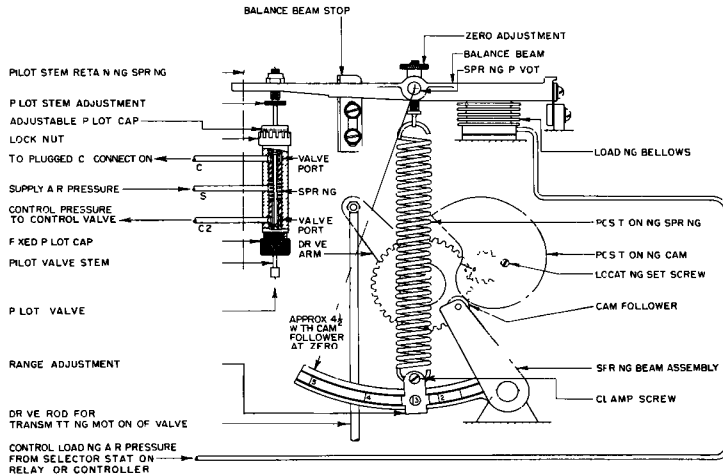

FIGURE 2 - Schematic of Positioner
b 1 1/2 or 2 INCH RATED TRAVEL Remove B 1/2 cam. Do not remove locating set screw (Figure 2). Replace B 1/2 cam with B cam
a 3/4 or 1 INCH RATED TRAVEL Remove B 1/2 cam. Remove location set screw (Figure 2) and place screw in tapped hole in opposite side of cam hub. Reassemble B-1/2 cam so opposite side faces outward.
b 1 1/2 or 2 INCH RATED TRAVEL Remove B-1/2 cam. Remove location set screw (Figure 2) and place screw in tapped hole in opposite side of cam hub. Replace B 1/2 cam with B cam. Assemble B cam so opposite side faces outward.
a. 3/4 or 1 INCH RATED TRAVEL. Remove B 1/2 cam. Remove locating set screw (Figure 2) and place screw in tapped hole in other side of cam hub. Reassemble B-1/2 cam so opposite side faces outward
b 1-1/2 or 2 INCH RATED TRAVEL Remove B 1/2 cam. Remove locating set screw (Figure 2) and place screw in tapped hole in other side of cam hub. Replace B 1/2 cam with B cam. Assemble B cam so opposite side faces outward
b 1-1/2 or 2 INCH RATED TRAVEL: Remove B-1/2 cam. Do not remove locating set screw (Figure 2). Replace B-1/2 cam with B cam.